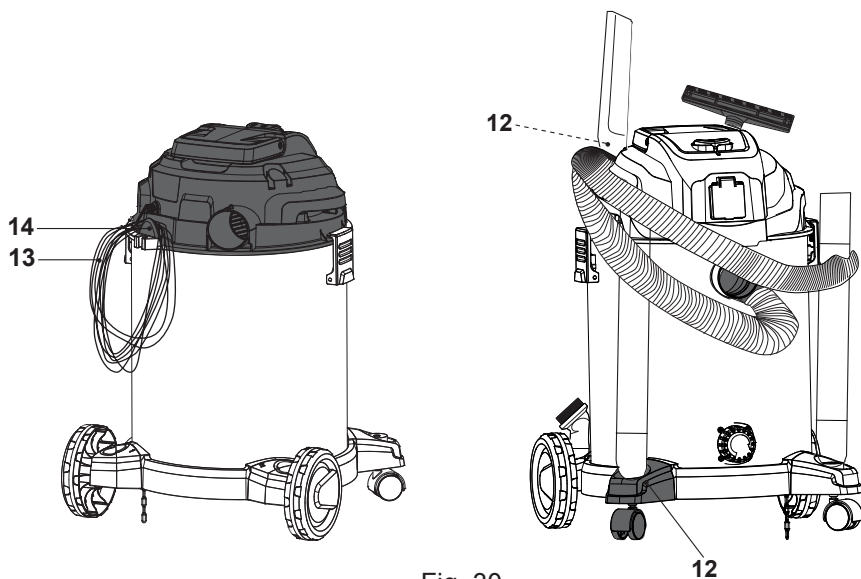

Fig. 30
- > Disconnect the respective attachment (18, 19, 20), hose (16) and extension tube(s) (17) if necessary.
- > To wash out the tank, use clean water instead of detergent. Do not immerse the tank (4) in water.
- > Once dry, we recommend putting the attachments onto the attachment storage (12) and storing the power cord (13) on the hook (14) of the motor unit (10) (Fig. 30).
- > We recommend putting the attachments onto the attachment storage (12) and storing the power cord (13) on the hook (14) of the motor unit (10) (Fig. 30).